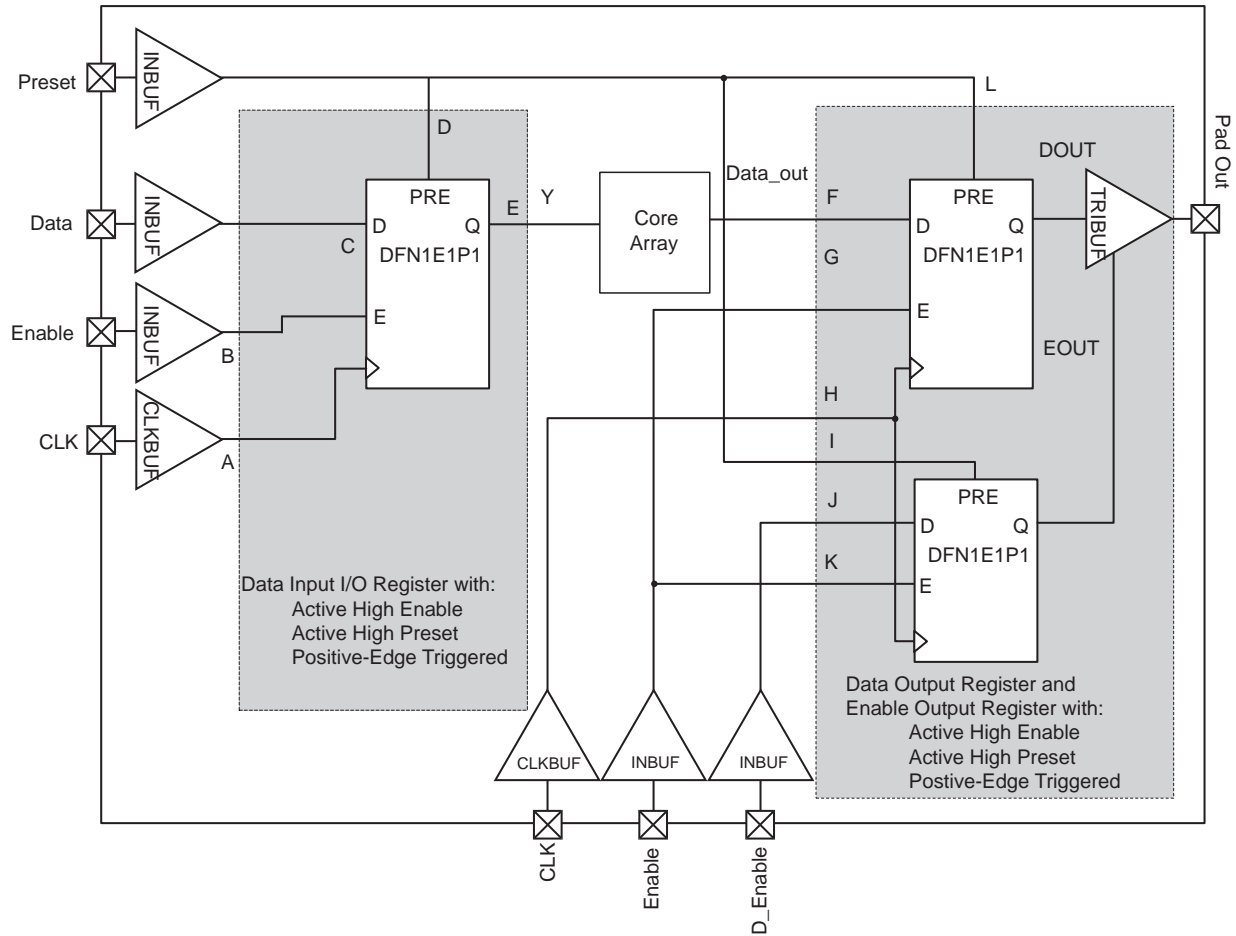

Figure 2-10 • Timing Model of Registered I/O Buffers with Synchronous Enable and Asynchronous Preset
* See Figure 2-10 on page 2-38 for more information.